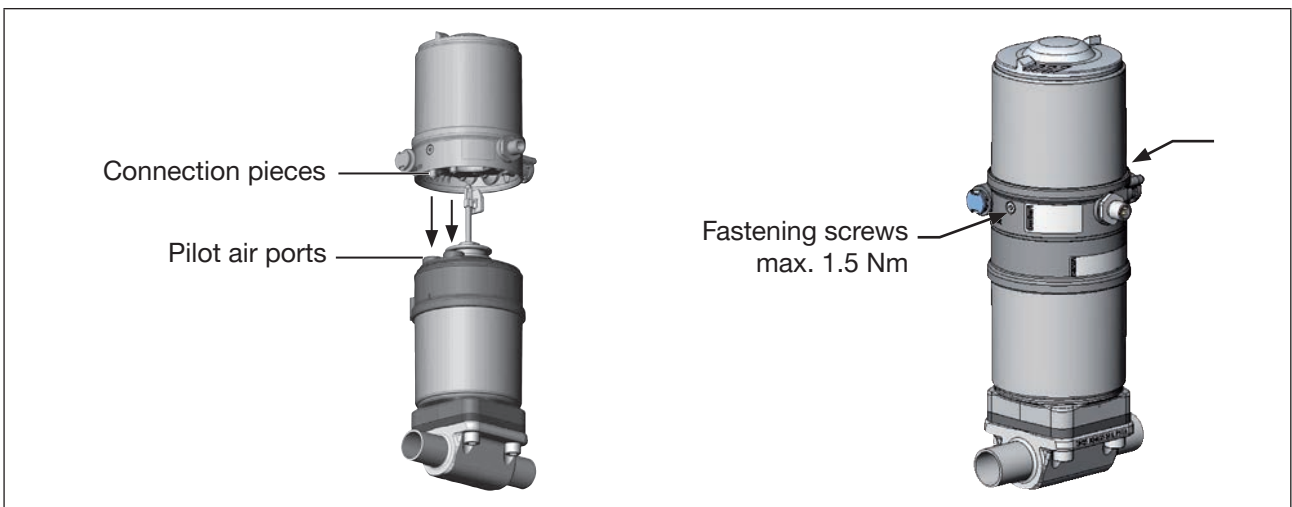

Figure 10: Installation of control head, series 21xx
2. the connection pieces of the control head can be inserted into the pilot air ports of the actuator (see “Figure 10”).